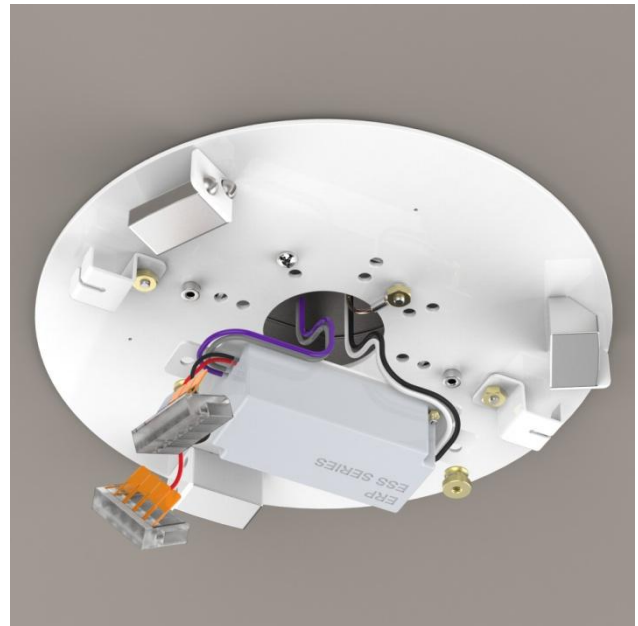

Figure 2
- Make wire connections using included orange twist-on connectors. (Figure 2)